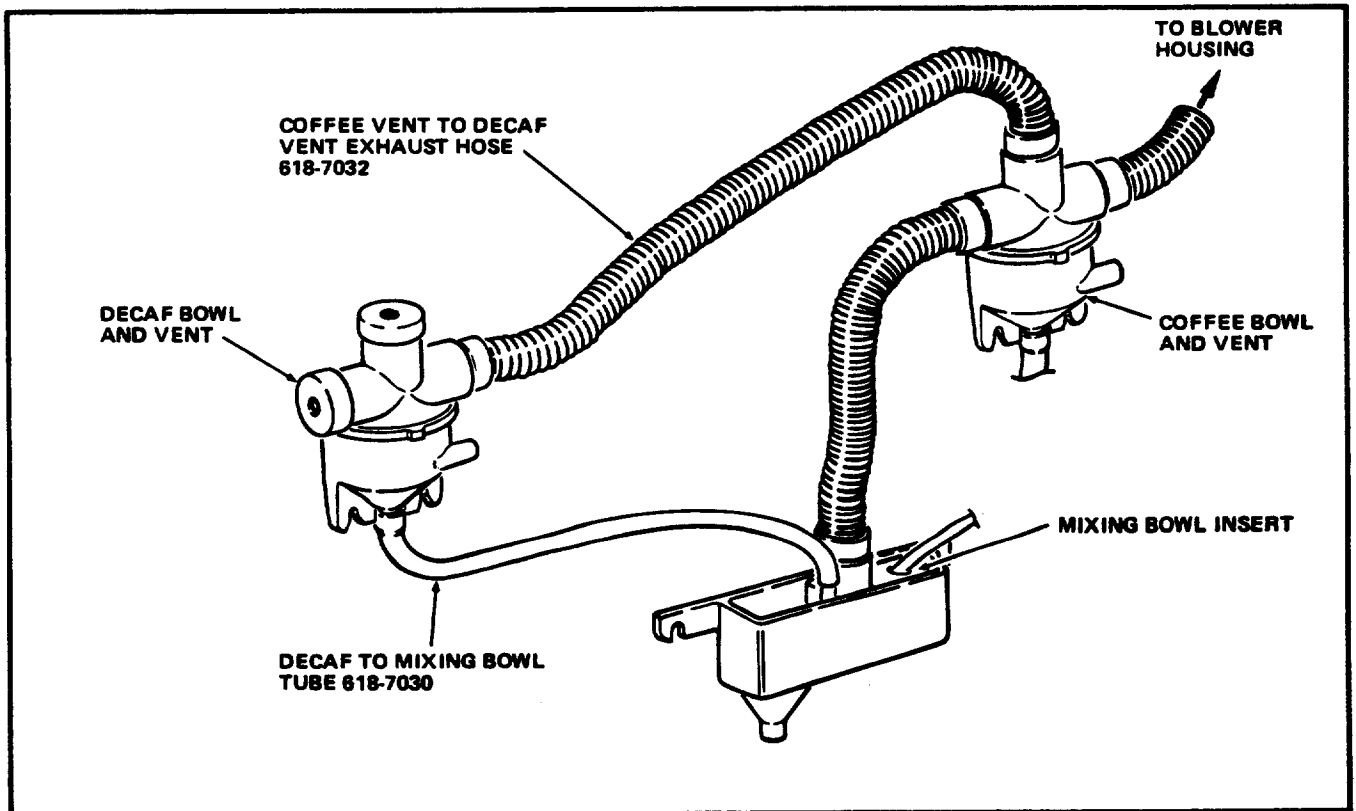

FIGURE 6
47. Use the Decaf Bowl-to-Mixing Bowl Tube included in the kit, part number 618-7030, to connect the Decaf Bowl outlet to the inlet of the Mixing Bowl Insert. See Figure 6.
48. Remove the Vinyl Cap from the Coffee Bowl Vent and use the Coffee Vent-to-Decaf Vent Exhaust Hose included in the kit, part number 618-7032, to connect the two vents. Arrange the Exhaust Hoses on the Coffee Vent as shown in Figure 6.